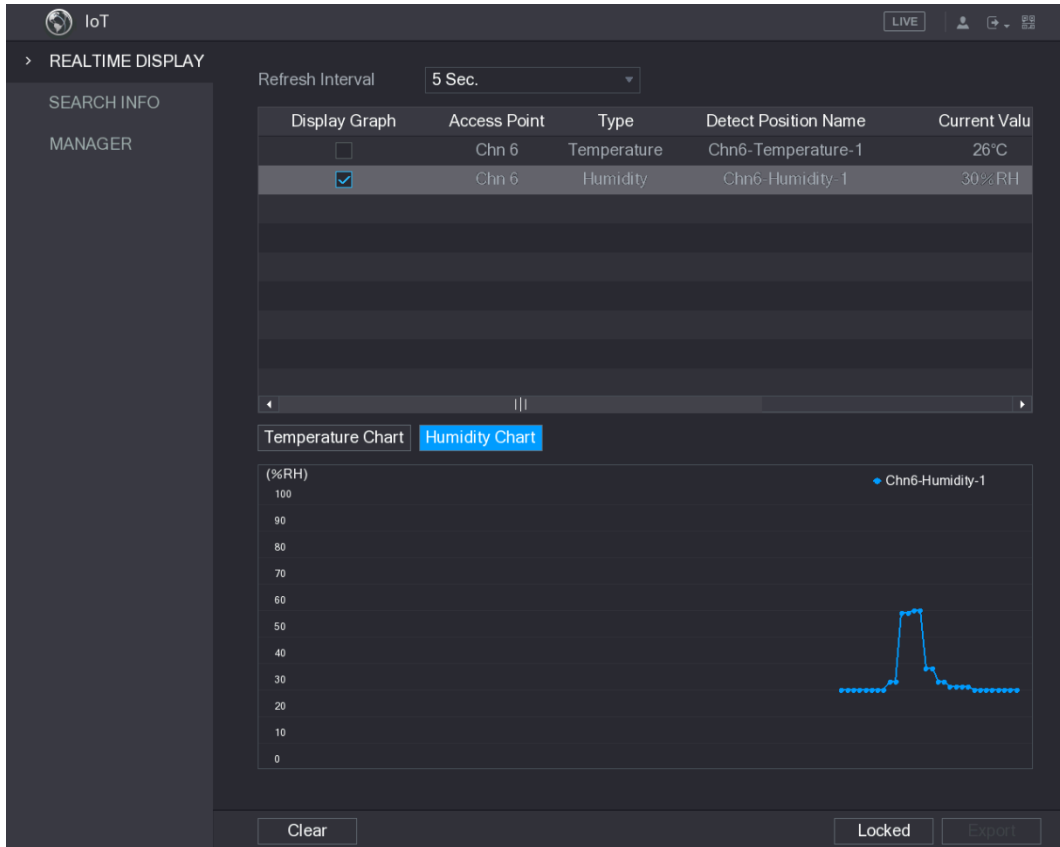

Figure 5-204
Step 4 On the **Realtime Display** interface, click the **Humidity** tab. See Figure 5-204.